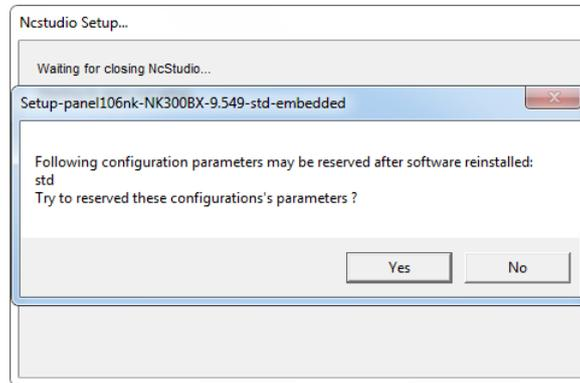

Fig. 4-18 Prompt for parameter saving
- 4) Click [Yes] to continue. If software of other version has been installed before and its parameters have been modified, there will be a prompt dialog box for confirmation of parameter settings saving, as shown in Fig. 4-18. Note that if it is the first time to install the software, this prompt will be omitted. Jump to step 5) directly to go ahead.